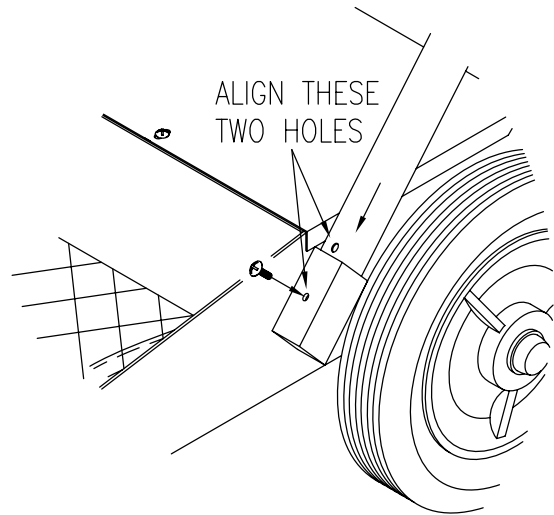

Fig 1
1. Attach handle assembly to the base by removing the two screws that are towards each end of the handle. Slide the handle ends into the sockets that are on either side of the base until the screw holes align with the holes in the sockets. Reinstall the screws through the sockets and into the handle. See figure 1.